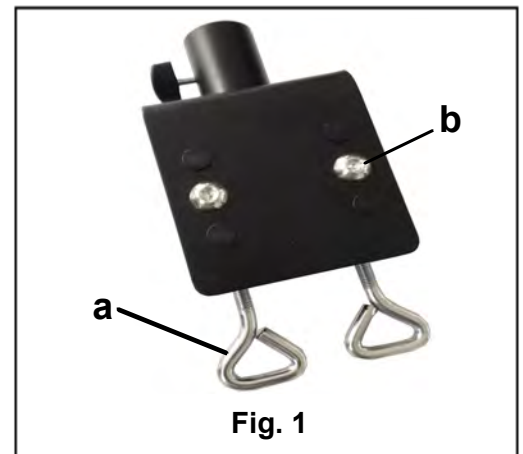

Fig. 1
2. Tighten the two clamping screws shown as **(a)** referring Fig. 1.
Table clamp has 6 holes (4 are covered with a hole plug) to adjust according to table thickness. If the table clamp does not fit the thickness of the tabletop, you can adjust it by unscrewing the two screws shown as **(b)** and move the loose part of the clamp as required and refix the hole plug referring Fig. 1.